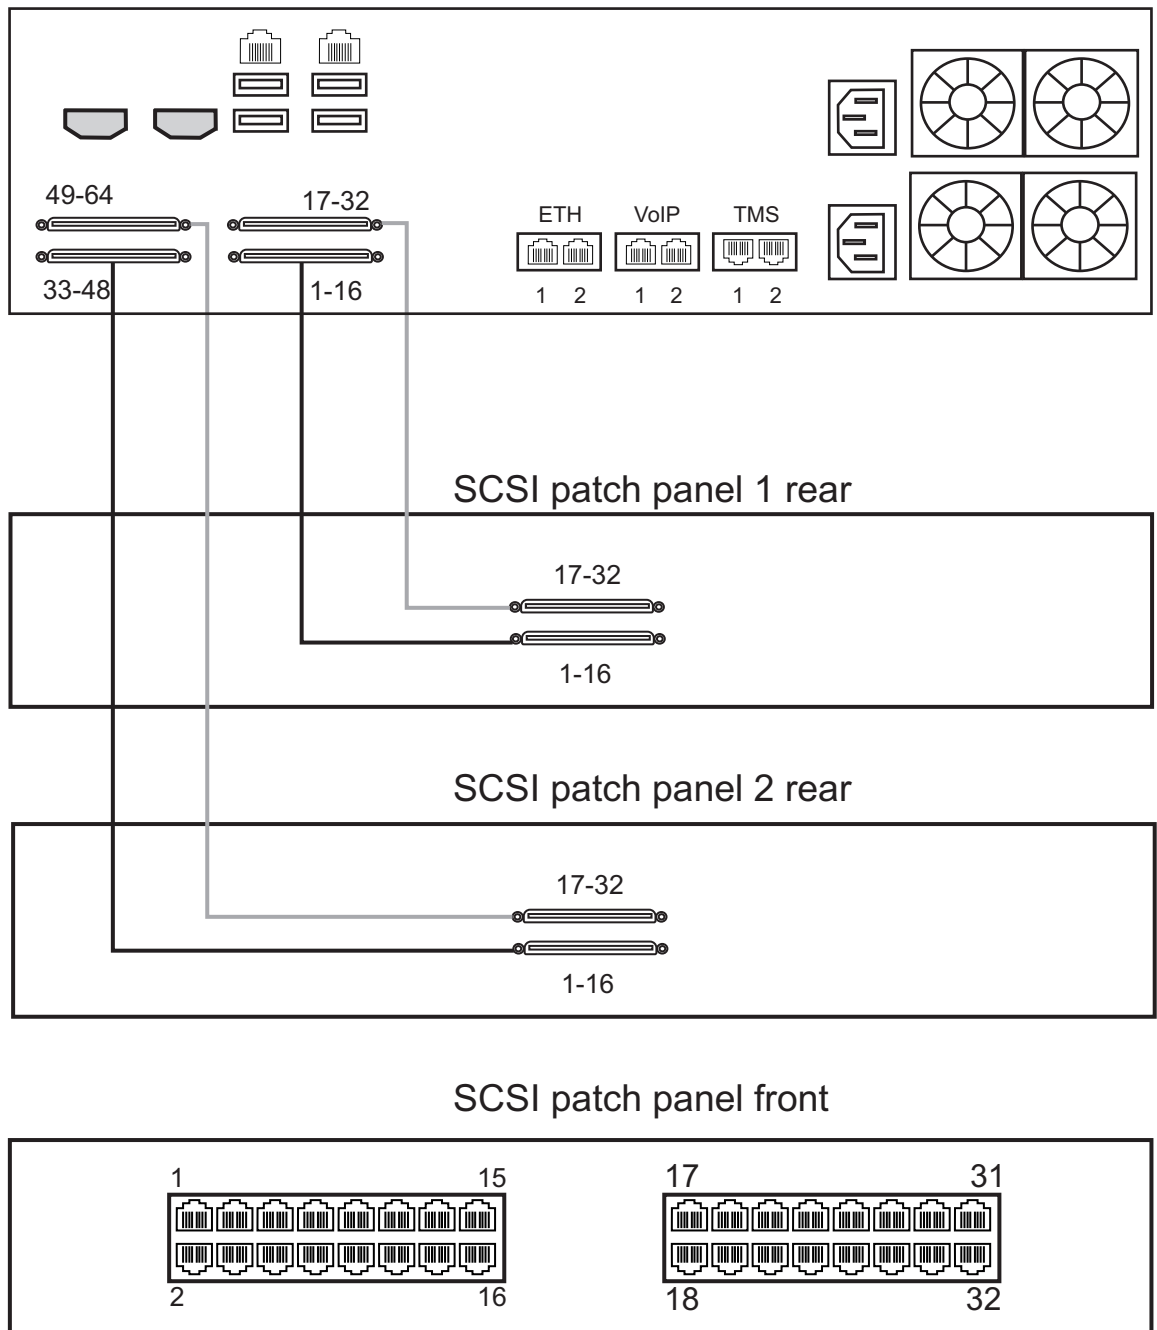

Figure 2.6 SCSI Interface to the PSTN
A TMP5900 with 4 SCSI connectors enables the connection to T1/E1/J1 lines. The termination impedance is set at 120 ohms. It is possible to connect an external balun in order to convert to 75 ohms. See figure 2.6 on page 16
1. Start with the SCSI ports 1-16 located at the bottom right as shown in figure 2.6 on page 16. Connect one SCSI cable between this port and SCSI patch panel number 1, ports 1-16. Connect SCSI ports 17-32 to patch panel number 1, ports 17-32.